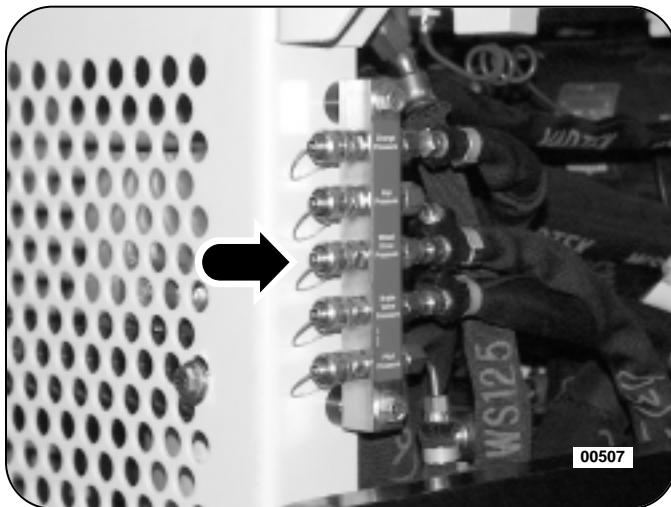

Figure 5: Wheel Drive Pump Pressure Gauge Port Tap
3. Connect the 10,00 psi pressure gauge, with the TIMBCO quick-couple adapter attached, to the gauge port tap provided on the centralized pressure check manifold. See Figure 5.